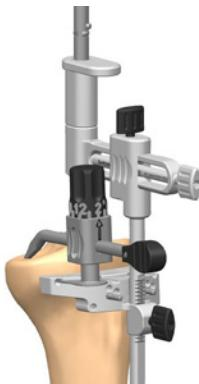

Figure 108
1. With the Adjustable Tibia Stylus set to the desired resection level, using non-headed 65mm pins, pin the cutting guide in position through the holes marked '0.' For additional fixation, a headed or non-headed 65mm pin can be inserted through the oblique pin hole (**Figure 108**).